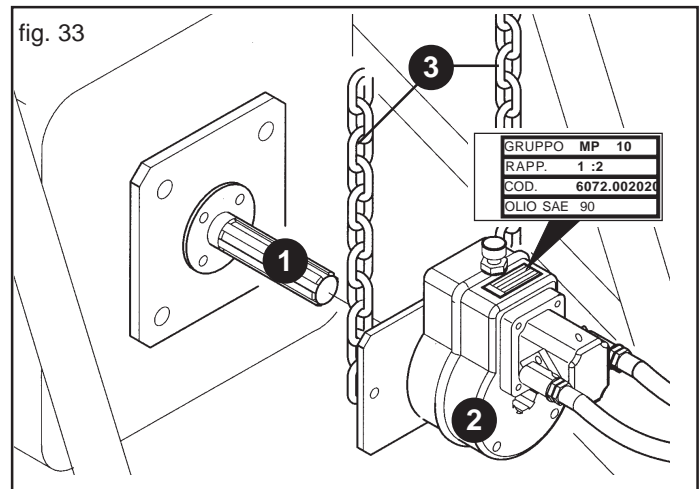

fig. 33
Clean and grease the tractor power take-off. (1, Fig. 33).
Connect the multiplier (2) to the machinery power take-off as shown in Figure 33.